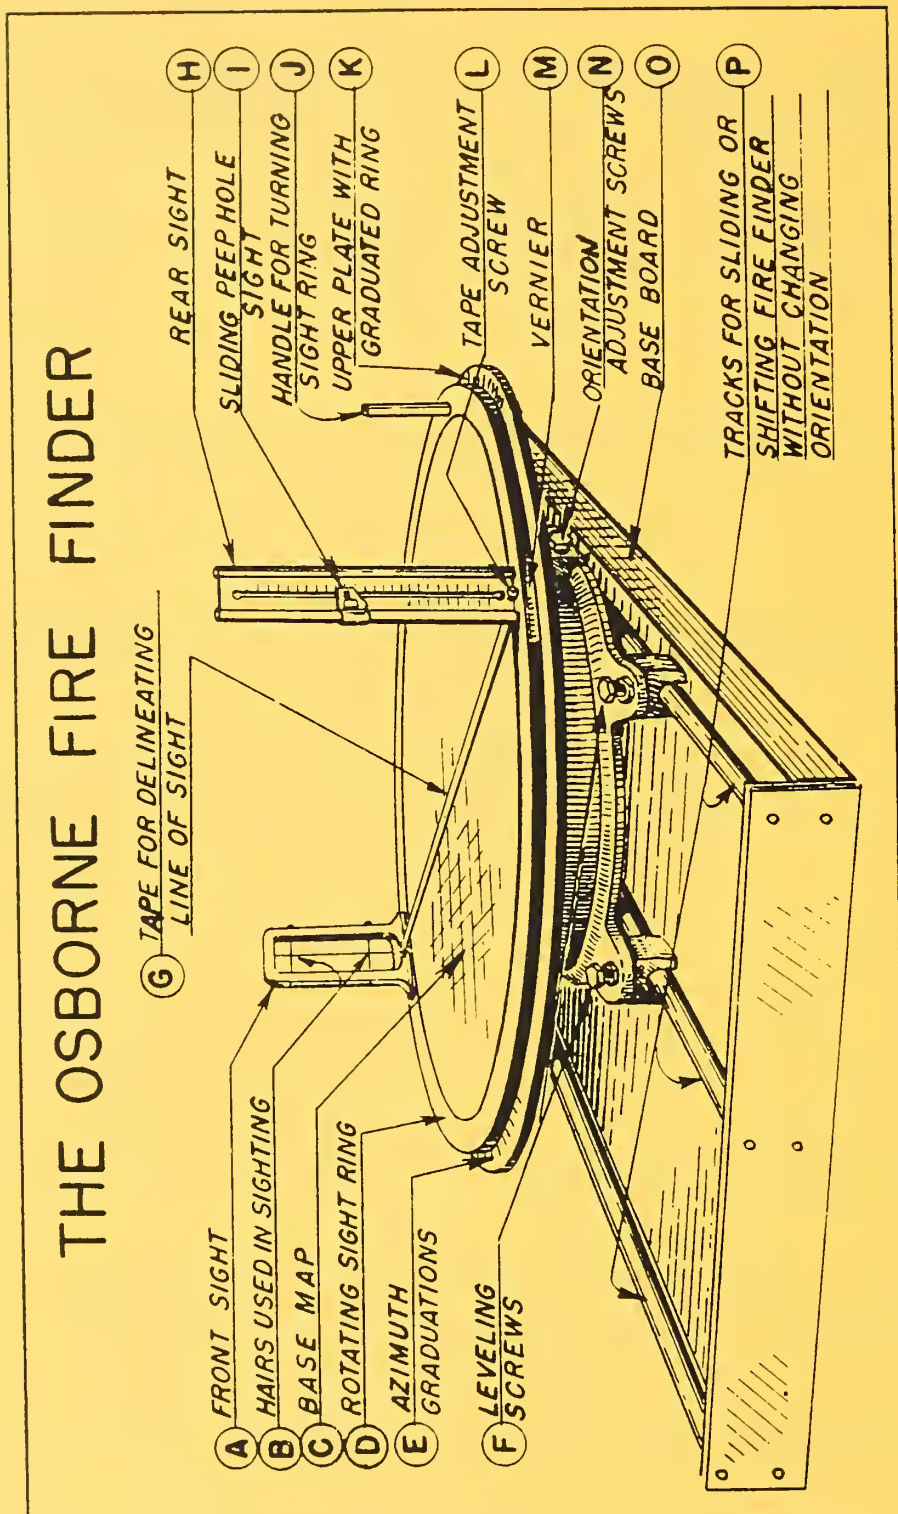

Figure 1.--The Osborne Firefinder.
34.11e - Using Osborne Firefinder. The Osborne Firefinder is the basic tool for locating fires. The accuracy of reports of fires will depend on how well the instrument is adjusted and oriented. Knowledge of the various parts of the firefinder (figure 1) will enable the lookout to keep it in adjustment.